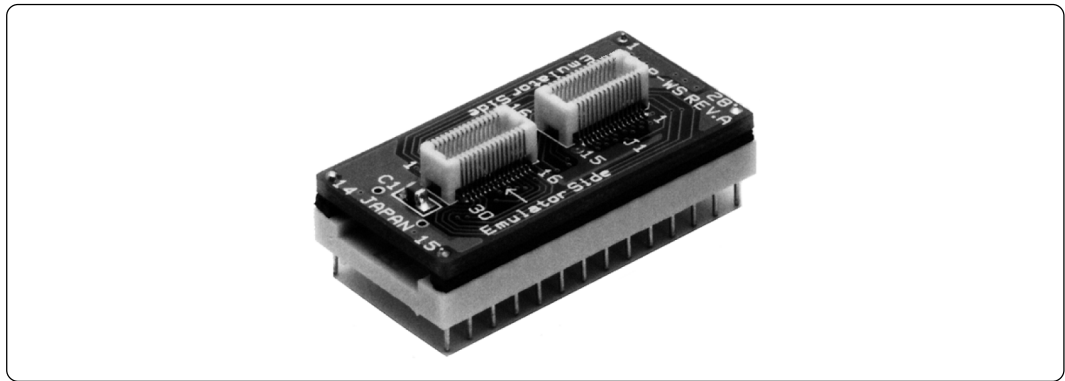

Figure 3.3 External view of the 28DP-WS (included)
- (1) When the emulator MCU is an RSS or RLSS chip
- (2) When the emulator MCU is an RFS or RLFS chip with screw-lock
- (3) When the emulator MCU is an RFS or RLFS chip without screw-lock
For methods (1) and (3), use the 28DP-WS board as the probe direction converter board; for method (2), use the 32LCC-S board. Figures 3.3 and 3.4 show the top view of the 28DP-WS and that of the 32LCC-S, respectively.